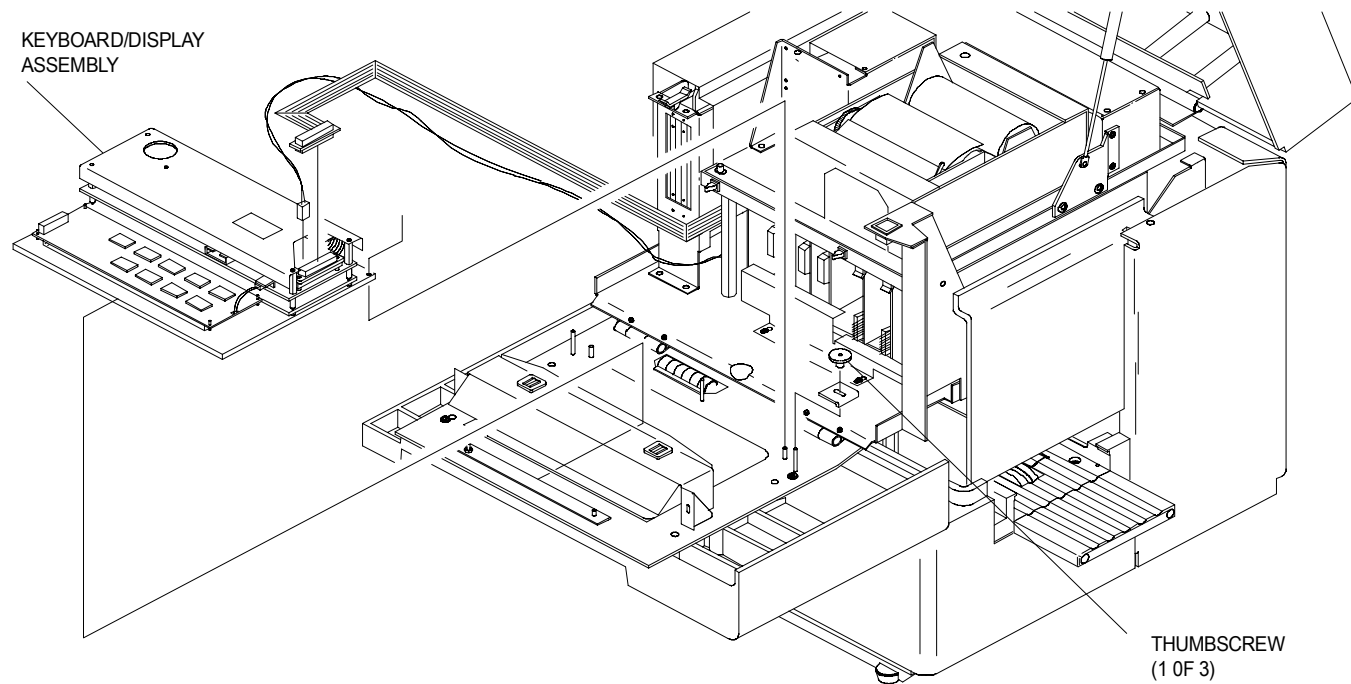

Figure 4-11. Keypad/Display Assy
4. Remove three thumbscrews and clamps (**Figure 4-11**).